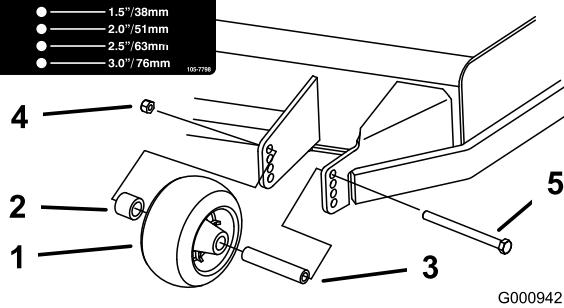
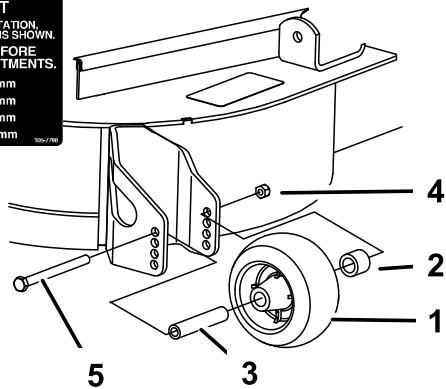

Figure 20
Figure 22
3. After adjusting the height-of-cut, adjust the rollers by removing the flange nut, bushing, spacer, and bolt (Figure 20 , Figure 21 and Figure 22).
5. Install the flange nut bushing, spacer, and bolt. Torque to 40-45 ft-lb (54-61 N·m) (Figure 20 , Figure 21 and Figure 22).